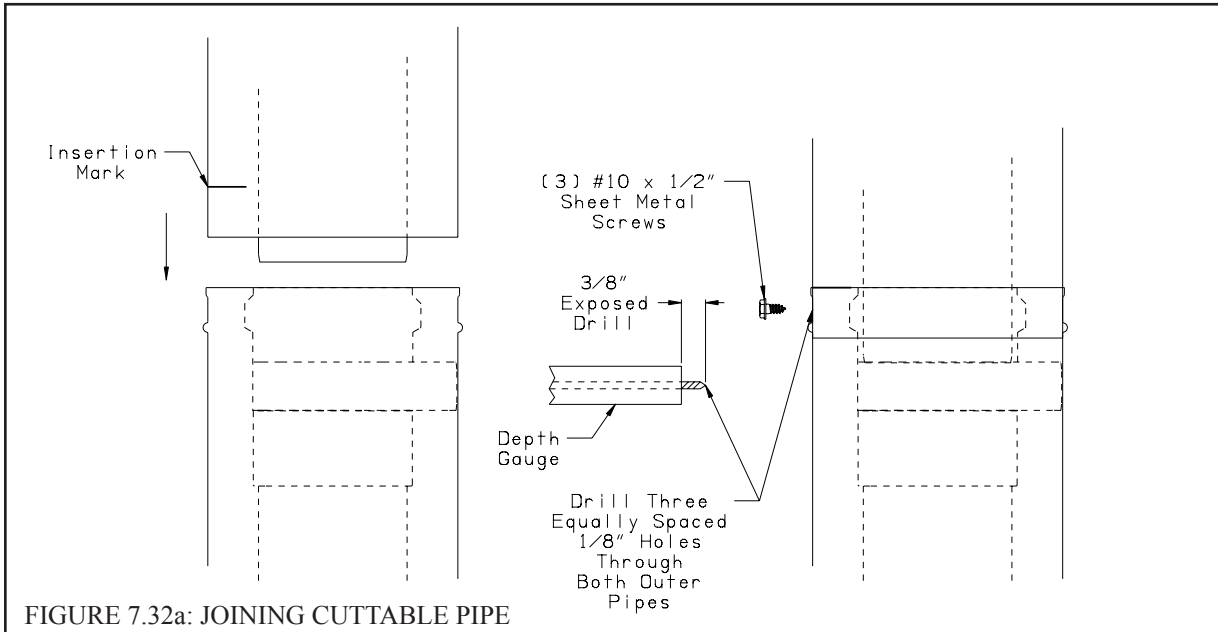

FIGURE 7.32a: JOINING CUTTABLE PIPE
- c) The male end of cuttable fittings must be held to the collar with three #10 x 1/2" sheet metal screws. Drill a 1/8" hole through both outer pipes to start this screw. **Use a drill stop or other means to ensure that the drill bit does not penetrate more than 3/8" into the outer pipe. Do not use a sheet metal screw longer than 1/2"** (Figure 7.32a).